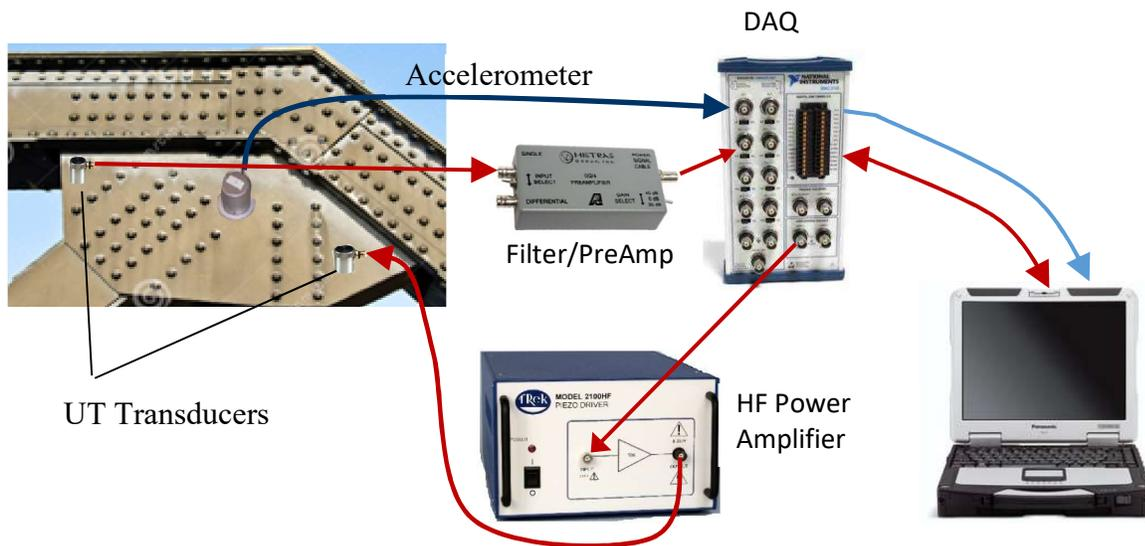

Fig.2.1. FN-SCAN® system components and connection diagram
FN-SCAN® connection diagram is shown in the Fig.2.1
2. Connect the system according to the diagram in Fig.2.1.